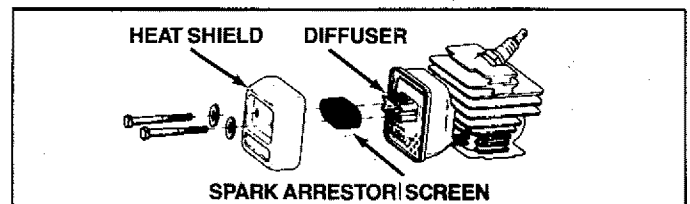

Figure 35
- Remove the heat shield. Figure 35.